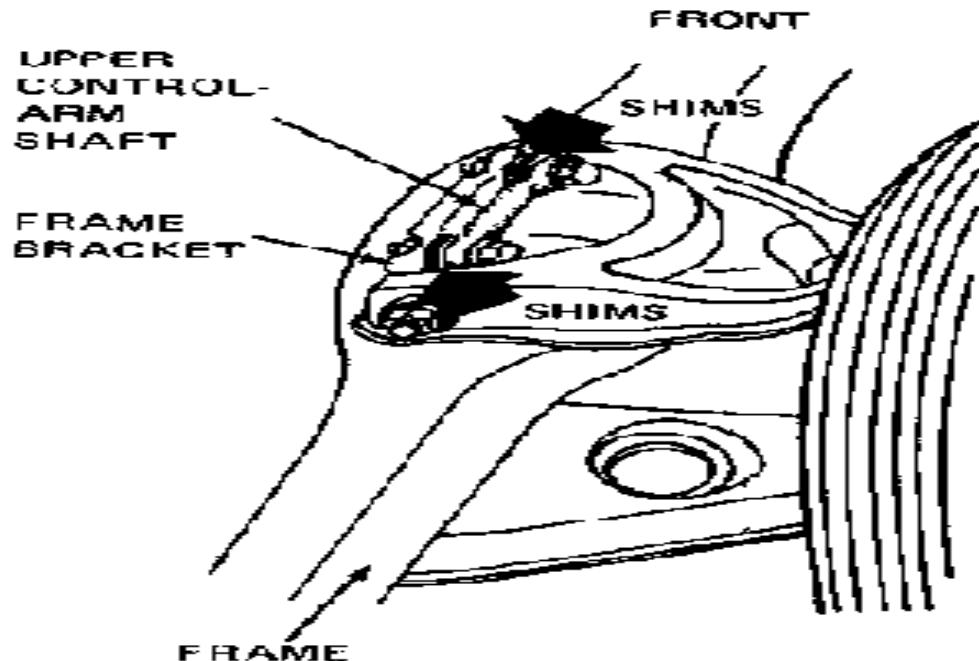

Figure -17 Location of caster and camber adjusting shims
a. **Adjustment by Installing or Removing Shims.** The shims are located at the upper control-arm shafts. They are placed either inside or out side the frame bracket. Figure - 16 shows the location of the shims in many general motors cars. The shims are inside the frame bracket. Figure -17 shows the location of the shims in many ford cars. The shims are outside the frame bracket. When the shims are inside the frame bracket, adding shims moves the upper control arm inward. This reduces positive camber. When the shims and shaft are outside the frame bracket, adding shims moves the upper control arm outward. This increases positive camber. If shims are added at one attachment bolt and removed the other, the outer end of the upper control arm shafts one way or the other. This increases or decreases caster.